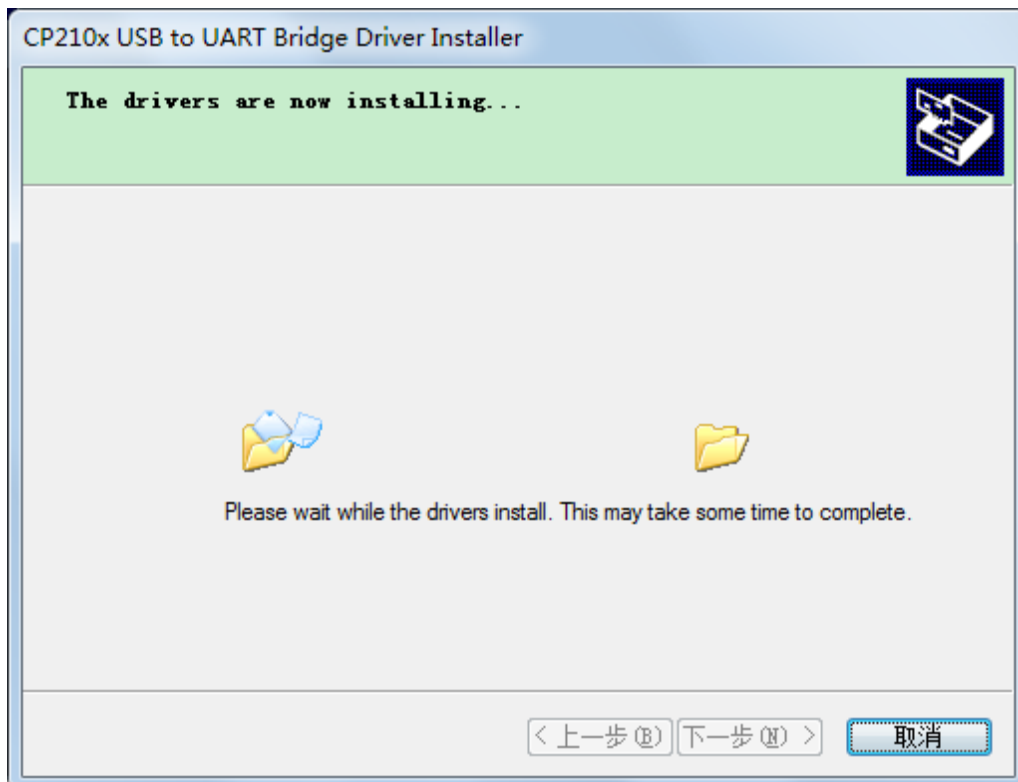

Fig. 4-8 Installing window
8. During installation, the installation progress interface will appear, please wait for the installation to complete, as shown in Fig. 4-8.